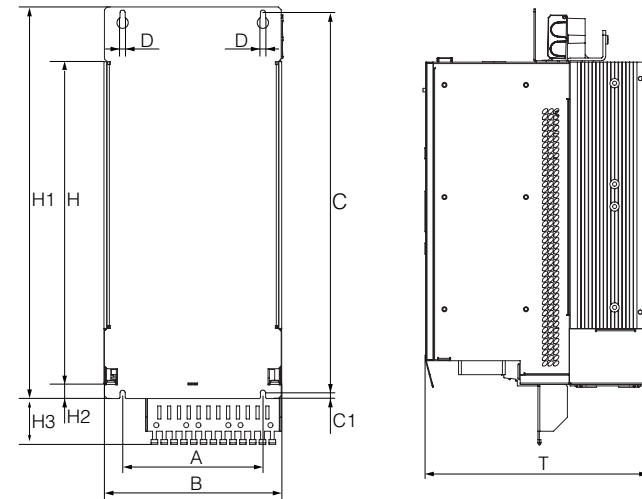

Figure 3.6 Dimensional drawing wall mounting housing variant Size 5 + Size 6A (symbolic depiction)
2. Note the mounting distances. Also pay attention to the bending radius of the connection cables. For dimensional drawings/hole spacing see Figure 3.6 and Table 3.1.